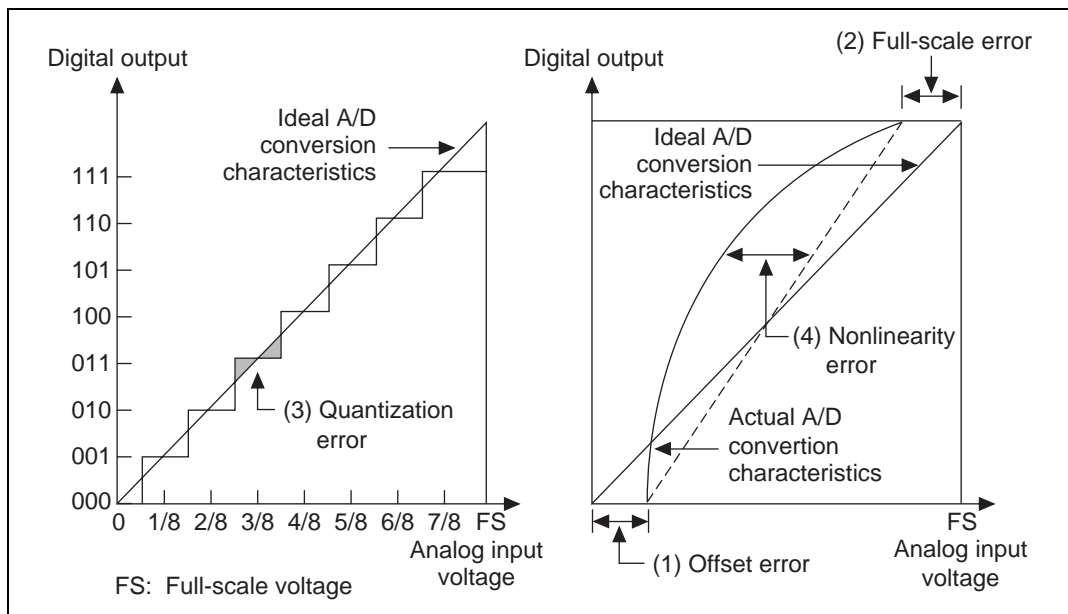

Figure 28.8 Definitions of A/D Conversion Accuracy
These four error quantities are explained below using figure 28.8. In the figure, the 10 bits of the A/D converter have been simplified to 3 bits.
Offset error is the deviation between actual and ideal A/D conversion characteristics when the digital output value changes from the minimum (zero voltage) 000000000 (000 in the figure) to 000000001 (001 in the figure)(figure 28.8, item (1)). Full-scale error is the deviation between actual and ideal A/D conversion characteristics when the digital output value changes from the 111111110 (110 in the figure) to the maximum 111111111 (111 in the figure)(figure 28.8, item (2)). Quantization error is the intrinsic error of the A/D converter and is expressed as 1/2 LSB (figure 28.8, item (3)). Nonlinearity error is the deviation between actual and ideal A/D conversion characteristics between zero voltage and full-scale voltage (figure 28.8, item (4)). Note that it does not include offset, full-scale or quantization error.